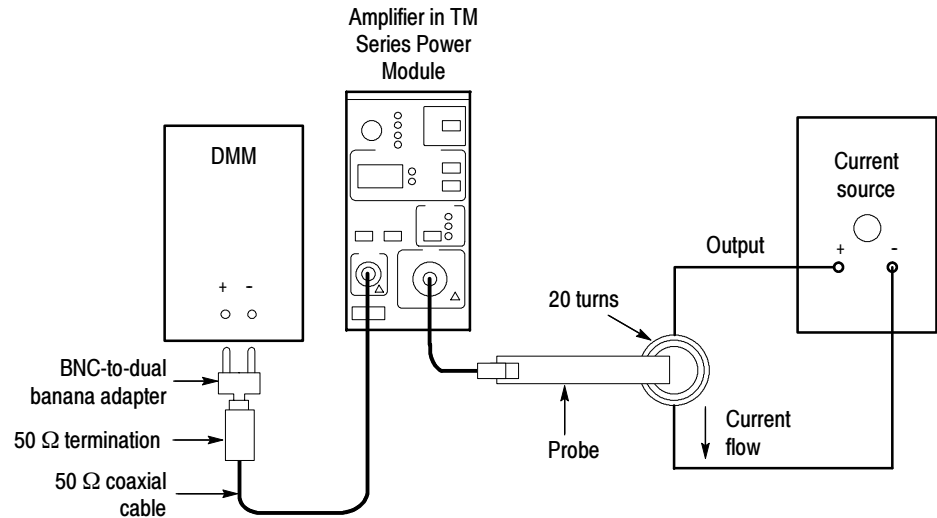

Figure 10: DC gain accuracy test setup for A6312
2. Connect the current loop to the current source as shown in Figure 10.
3. Clamp the current probe around the 20 turn current loop, as shown in Figure 10. Verify that the arrow-shaped indicator on the probe points away from the current source.